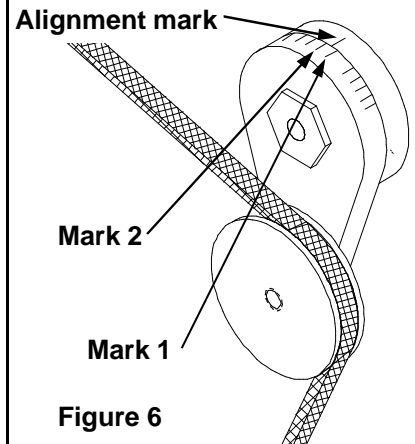

Figure 6
2) Thread the belt over the fan disc, the motor pulley, and then the tensioner idler pulley. With a 15/16" wrench, rotate the tensioner assembly such that the alignment mark is between mark 1 and 2 on the idler arm. See Figure 6. Tighten the 3/8" bolt.